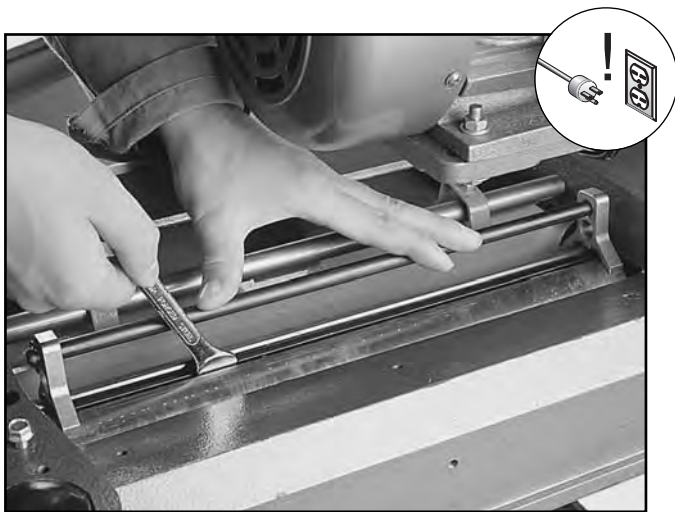

Figure 34. Tightening gib bolts in cutterhead.
- While holding the position of the knife setting jig, tighten the gib bolts down again in the cutterhead (**Figure 34**). Tighten the bolts evenly from the middle, working toward the ends.